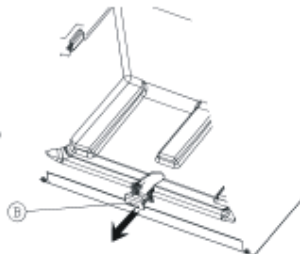

Figure -2-
2- Pull out the drain plug (B) placed under the freezer compartment (figure-2).